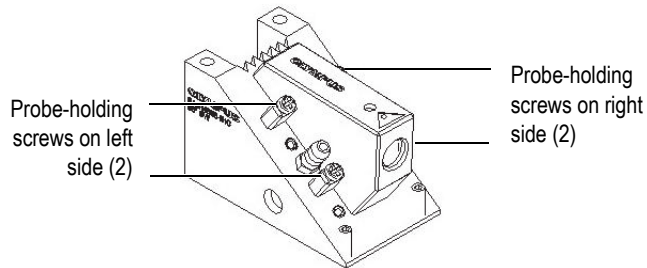

Figure 2-1 Probe and screws on wedge
1. Mount the probe on the wedge (see Figure 2-1 on page 17). Make sure that sufficient couplant is applied between the probe face and wedge.